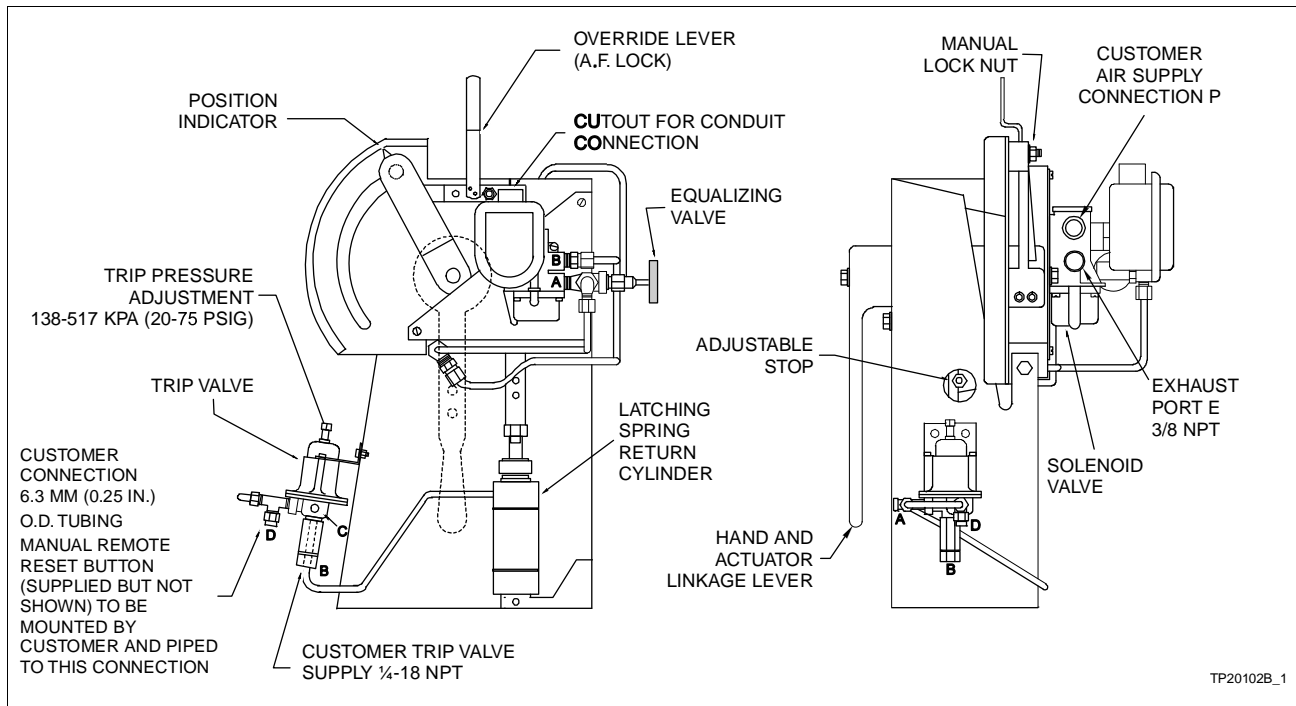

Figure 3-9. Type UP1 Actuator with Solenoid Valve and Air Failure Lock
NOTE: Refer to Figures 3-9 And 3-10.
1. Refer to Figures 3-9, 3-14 and 3-15.